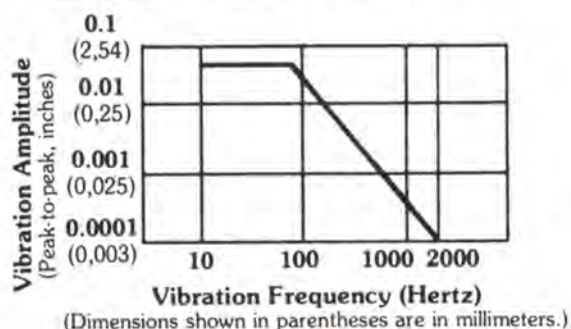

Figure 4
6.17.2 Procedure — Initial resistance shall be measured. The mounted resistors shall then be subjected to the vibration amplitude and frequency range shown in Figure 4. The vibration waveform shall be a simple harmonic motion having an amplitude sufficient to provide 20g constant peak acceleration, but not to exceed 0.06 inch (1,52 mm) peak-to-peak amplitude. The frequency shall be varied approximately logarithmically between the nominal limits of 10 and 2000 Hertz with a return sweep to 10 Hertz. The entire sweep from 10 to 2000 to 10 Hertz shall be traversed in approximately 20 minutes. This sweep cycle shall be performed repeatedly for 6 hours in each of two directions: parallel and perpendicular to the longitudinal axis of the resistor. Interruptions are permitted provided requirements for rate of change and test duration are met. Electrical monitoring shall be provided during this test to detect resistor discontinuities of 0.1 millisecond or greater duration. Final measurements and examination for mechanical failures shall be made after the test.